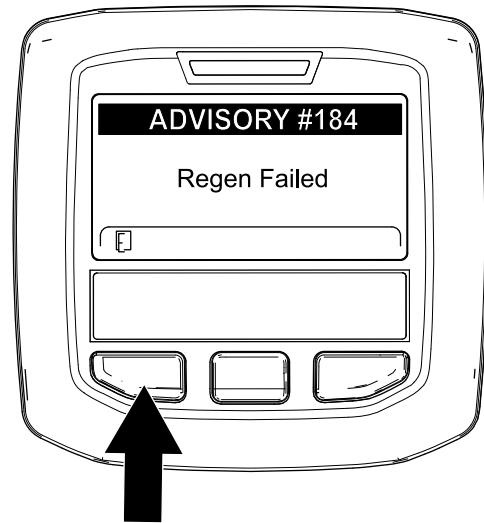

Figure 66
- Note:** If the regeneration fails to complete, the InfoCenter displays Advisory #184 (Figure 66). Press the left button to exit to the home screen.